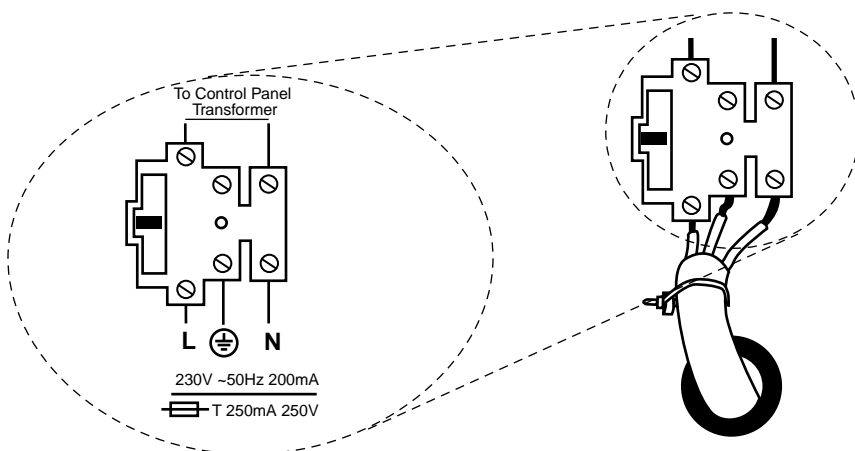

Figure 4. Mains Connection
Connect the 21VAC lead from the mains transformer to the main pcb. See Figure 4 for the location of the 21VAC connector.
2. Briefly short the kick start pins together (they are located above battery fuse F-2A, see Figure 4).